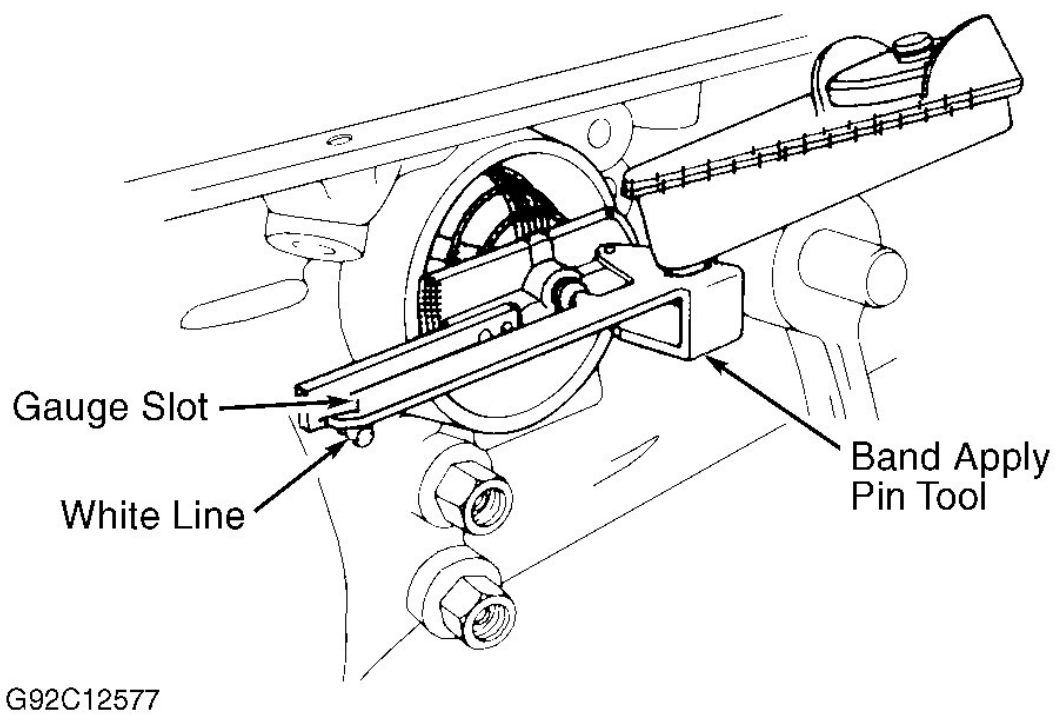

Fig. 18: Measuring Servo Pin Length
2. Remove retainer ring, cushion spring and spring retainer. Install Band Apply Pin Tool (J-33037) and apply pin. See **Fig. 18**. Apply 100 INCH lbs. (11 N.m) torque.